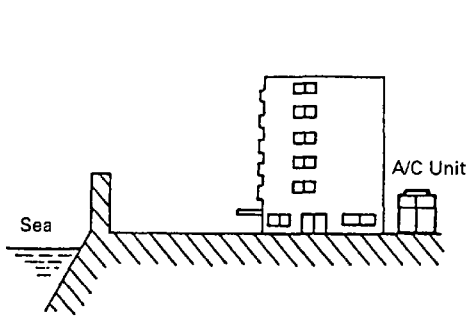
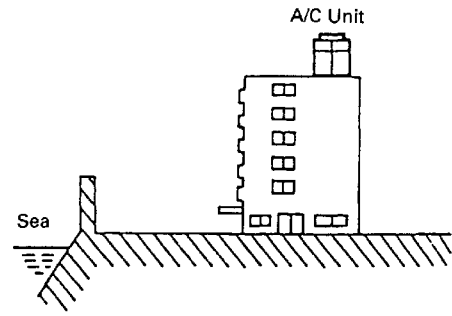

Fig.1 "E" or "E1"
Fig.2 "E2"
We recommend to use following models in case A/C units are installed in the location as attached. (See Fig.1 & Fig.2)
Anti-corrosion "E" type (see Fig.1)	R71BBY1, R100BBY1, RU05JY1, RU07JY1, RU08JY1, RU10JY1, RU11JY1, RU16JY1, RU22JY1, UAT05JY1, UAT06JY1, UAT09JY1, UAT10JY1, UAT12JY1, UAT14JY1, UAT16JY1, UAT19JY1, UAT22JY1
Anti-corrosion "E1" type (see Fig.1)	CR3MAYE, CR5MAYE, CR8MYE, CR10MYE, CR8M2YE, CR10M2YE, CR12JA2YE, CR15JA2YE, CR20JA2YE, CRY3MAYE, CRY5MAYE, CRY8MYE, CRY10MYE, CRY8M2YE, CRY10M2YE, CRY12JA2YE, CRY15JA2YE, CRY20JA2YE, CRY25J50YE RY6LY1, RY8LY1, RY10LY1
Anti-corrosion "E2" type (see Fig.2)	R71BBY1, R100BBY1, RU05JY1, RU07JY1, RU08JY1, RU10JY1, RU11JY1, RU16JY1, RU22JY1 RY6LY1, RY8LY1, RY10LY1 UAT05JY1, UAT06JY1, UAT09JY1, UAT10JY1, UAT12JY1, UAT14JY1, UAT16JY1, UAT19JY1, UAT22JY1 CR3MAYE, CR5MAYE, CR8MYE, CR10MYE, CR8M2YE, CR10M2YE, CR12JA2YE, CR15JA2YE, CR20JA2YE CRY3MAYE, CRY5MAYE, CRY8MYE, CRY10MYE, CRY8M2YE, CRY10M2YE, CRY12JA2YE, CRY15JA2YE, CRY20JA2YE, CRY25J50YE
- ① A/C units should be installed leeward side of buildings. (See Fig.1)
- ② Be sure to make wind screen to prevent salty air will touch A/C units directly, in case A/C units are installed on the shore.
- ③ Smooth drainage is required for installation place.